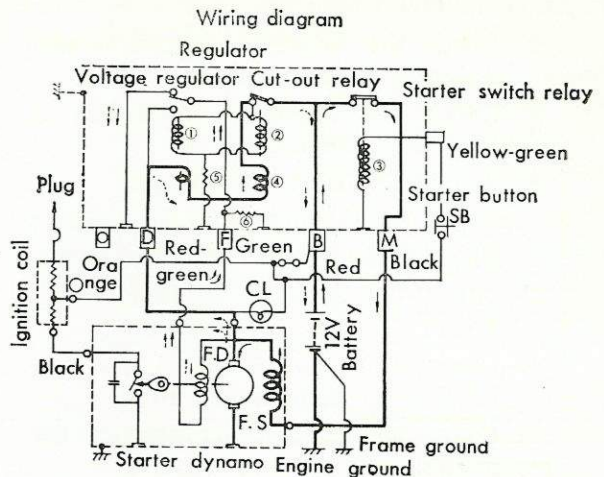

Fig. 25
(See Fig. 25)
- * When the starter button (SB) is pressed, with the main switch turned on, a current flows from the battery to the coil (3) of the starter switch to close the relay.
- * When this starter switch relay closes, a large current flows from the battery to the starter field coil (FS) and the armature, as indicated by solid arrows, to produce a powerful revolution for starting the engine. At this instant, an exciting current flows to the dynamo field coil (FD) through the regulator.
- * The current flowing from the battery to the dynamo field coil (FD) will then be flowing from the armature, as indicated by dotted arrows in Fig. 25.
- * As the voltage produced by the dynamo rises, a larger current flows through terminal D and the coil (4) and the cutout relay's coil (2) is actuated to close the relay and begins to charge the battery. (The current also flows to the coil (1)).
- * If the voltage produced rises too high, the coil (1) is actuated to lift the upper point of the voltage regulator to break the contact, and the field current is reduced, as it must pass the regulating resistance (6), thus lowering the produced voltage.
- * If the voltage still rises when the contact is broken, the point comes in contact with the lower point to shortcircuit the dynamo field coil (FD), reducing the field current to zero and suspending generation.
- * When the main switch (MS) is thrown in before starting the engine, a circuit is formed linking Terminal B, the main switch, the charge light, the armature and ground to turn on the charge light (CL).